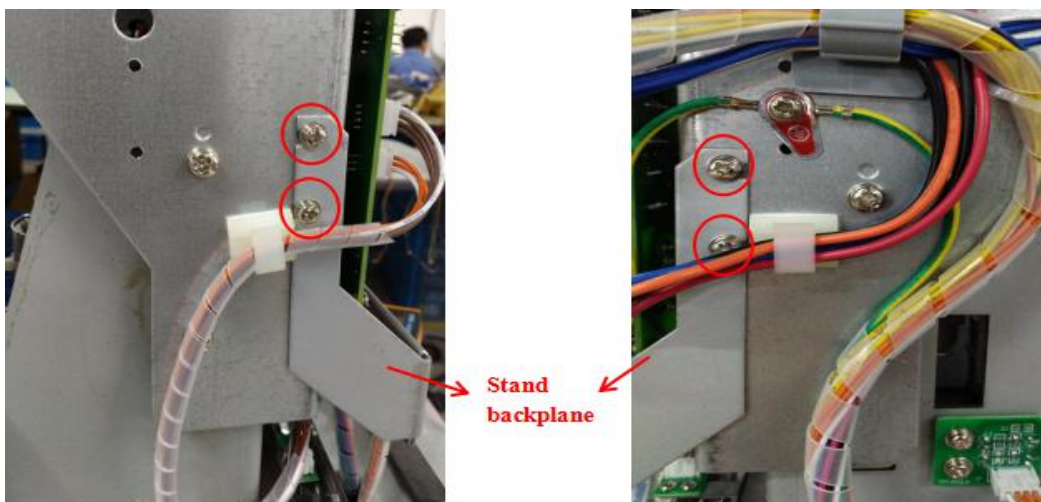

Fig 7.5-1
- 2.Loosen M3 * 8 triple-assembly Phillips screws on both sides of the rack,two screws on each side,after loosened remove the stand backplane for securing wires Fig7.5-1.